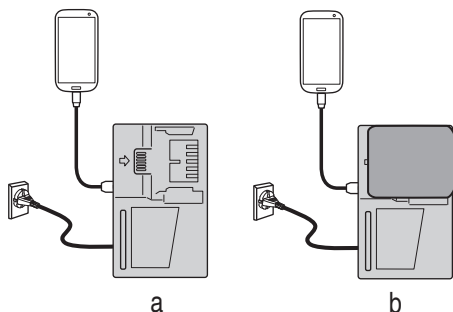

Fig. 23
- Charging a USB device from a electrical outlet (Fig. 23-a).
- Charging a USB device and battery from a electrical outlet.(Fig. 23-b)